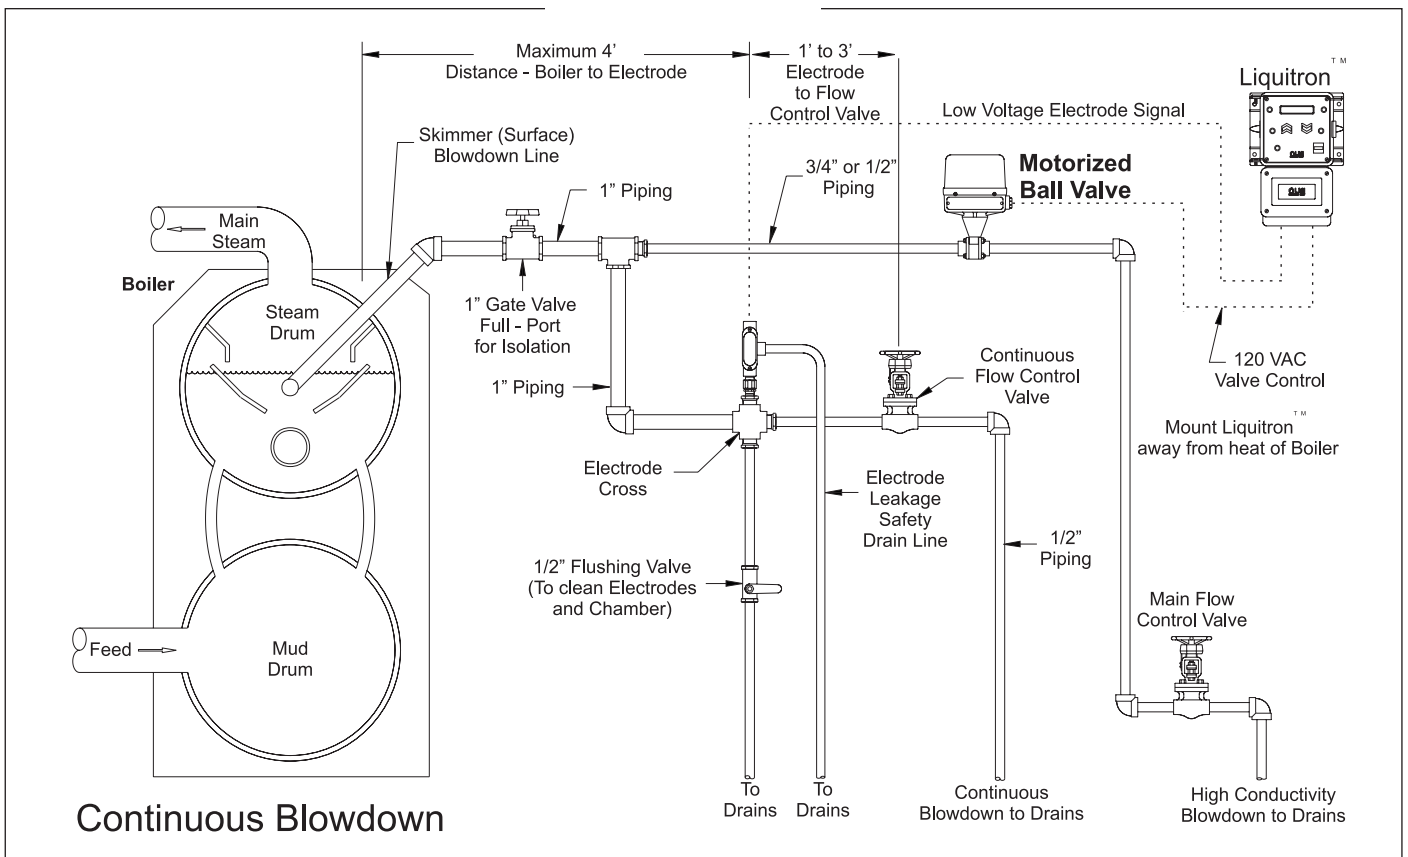

Figure 8: Continuous Sample
1. Check that the unit is installed as shown in Figure 8 Continuous Sample on page 30.